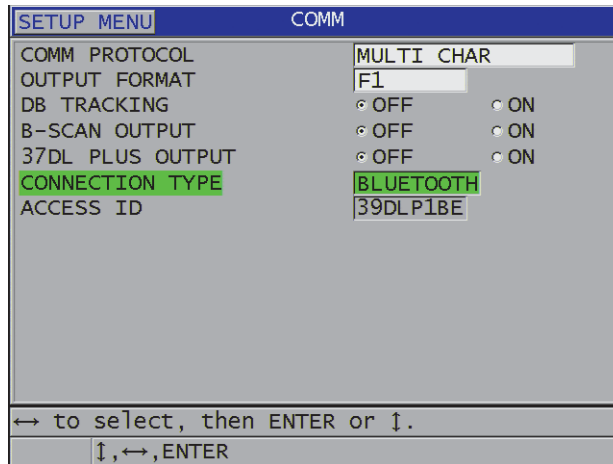

Figure 14-4 Configuring Bluetooth
4. In the **COMM** screen, set **CONNECTION TYPE** to **BLUETOOTH** (see Figure 14-4 on page 269).